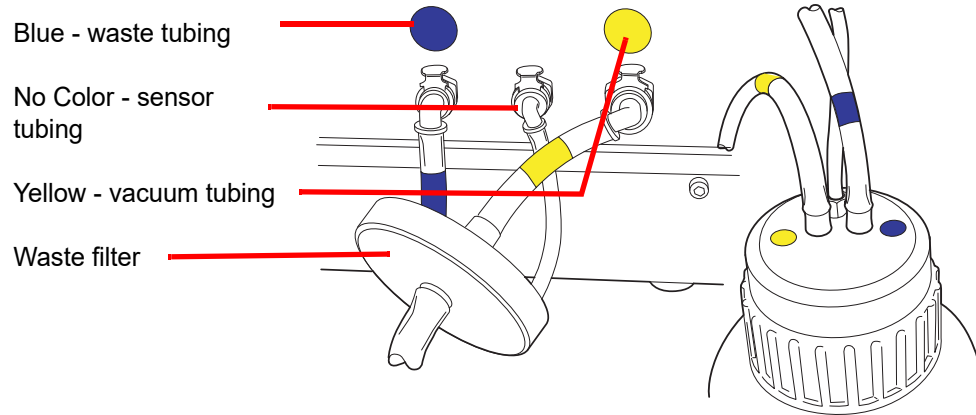

Figure 8-16 Waste Bottle Tubing Connections
3. Locate the three waste bottle connections at the rear of the ThinPrep 5000 processor. See Figure 8-16. Ensure that the buttons of the connectors are in the down/inward position.